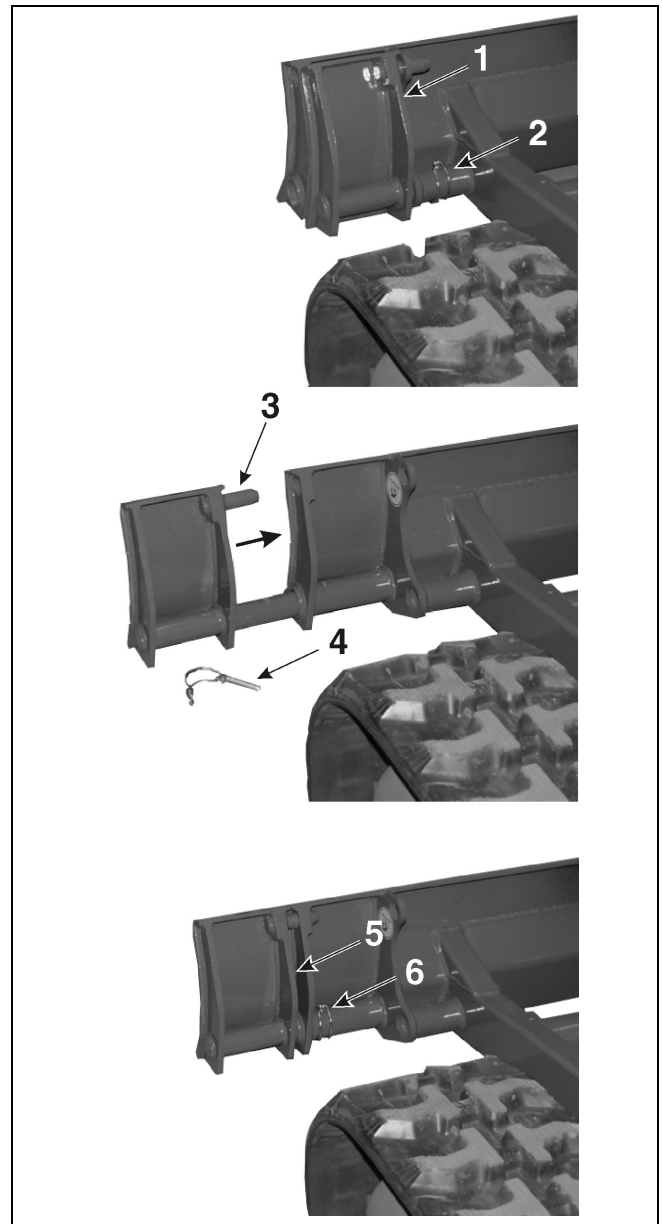

Figure 3-18 – Dozer Blade Extension
To extend the dozer blade, remove the quick-lock pin (2, Figure 3-18) and remove the blade extension (1) from the stored position.